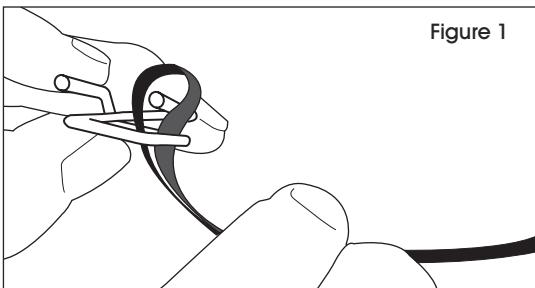

Figure 1
1. Insert end of strapping up through center of the buckle and around open leg to form a loop. Pull top tight around leg. (See Figure 1)